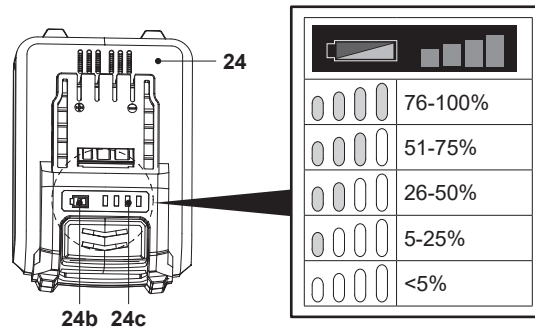

Fig. 10
The battery pack (24) is equipped with battery capacity indicators (24c) which are used to give an indication of the battery pack's remaining capacity. Press the battery capacity button (24b) to check battery capacity (Fig. 10). The LEDs will stay lit for approximately 3 seconds.